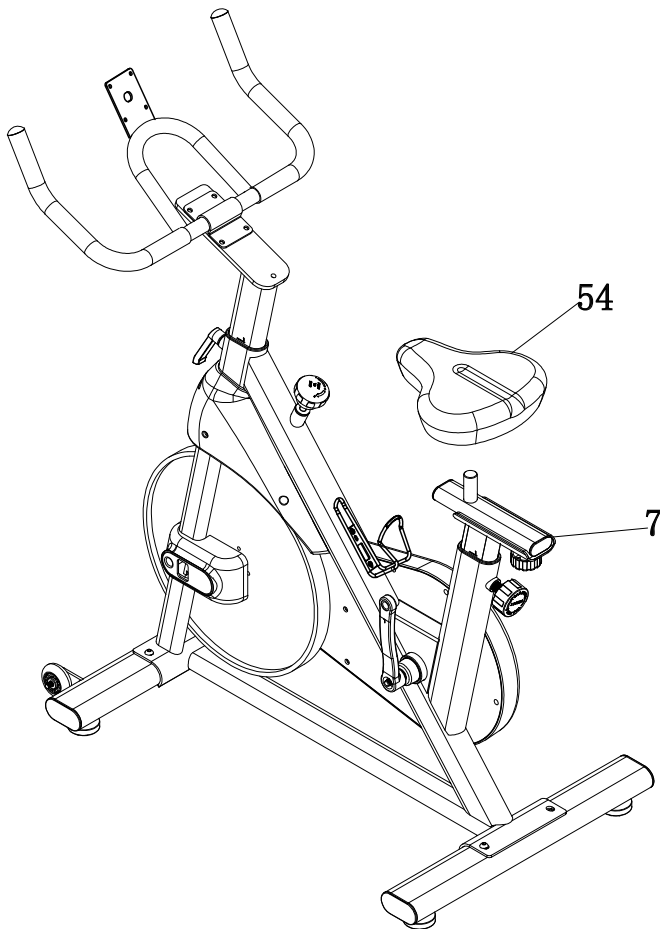

Fig. 6
1. Lock the seat cushion (54) on the adjustment on the seat cushion (7) according to the illustration below (fig. 6).